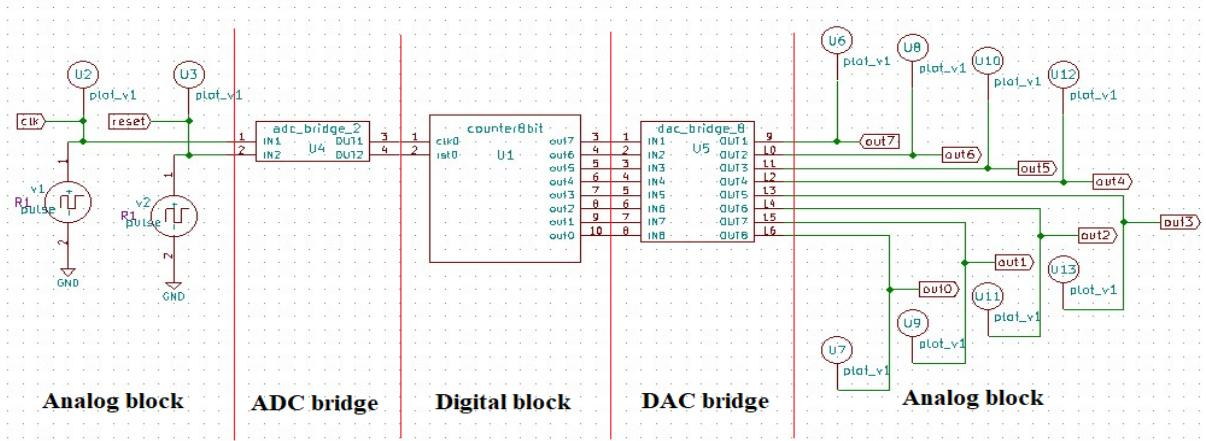

Figure 11.31: Example of an 8 bit Counter circuit in eSim
6. Now create the schematic as shown in Fig. 11.31, annotate, perform electrical rules